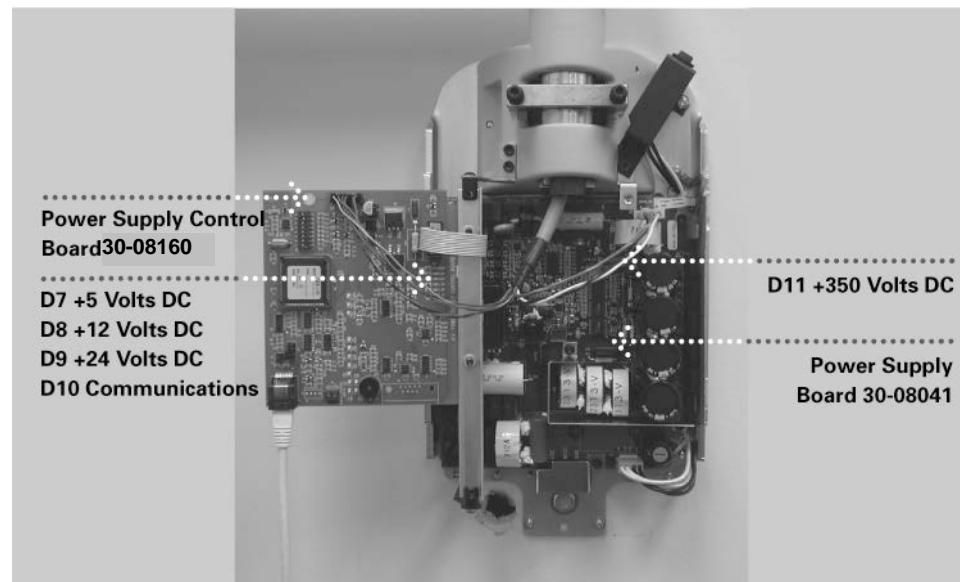

Figure 31
1. On Power Supply Board 30-08041, shown in *Figure 31*, verify that LED D11 is illuminated. The illuminated LED verifies that appropriate supply voltages are present.
2. On the Power Supply Control Board 30-08160, shown in *Figure 31*, verify that LEDs D7 (+5VDC), D8 (+12VDC) and D9 (+24VDC) are illuminated and LED D10 is flashing. Each illuminated LED verifies that appropriate supply voltages are present. If the LEDs are not illuminated, refer to the “No Operator Display but Power Switch is On” procedure in the Troubleshooting on page 69 of this manual.